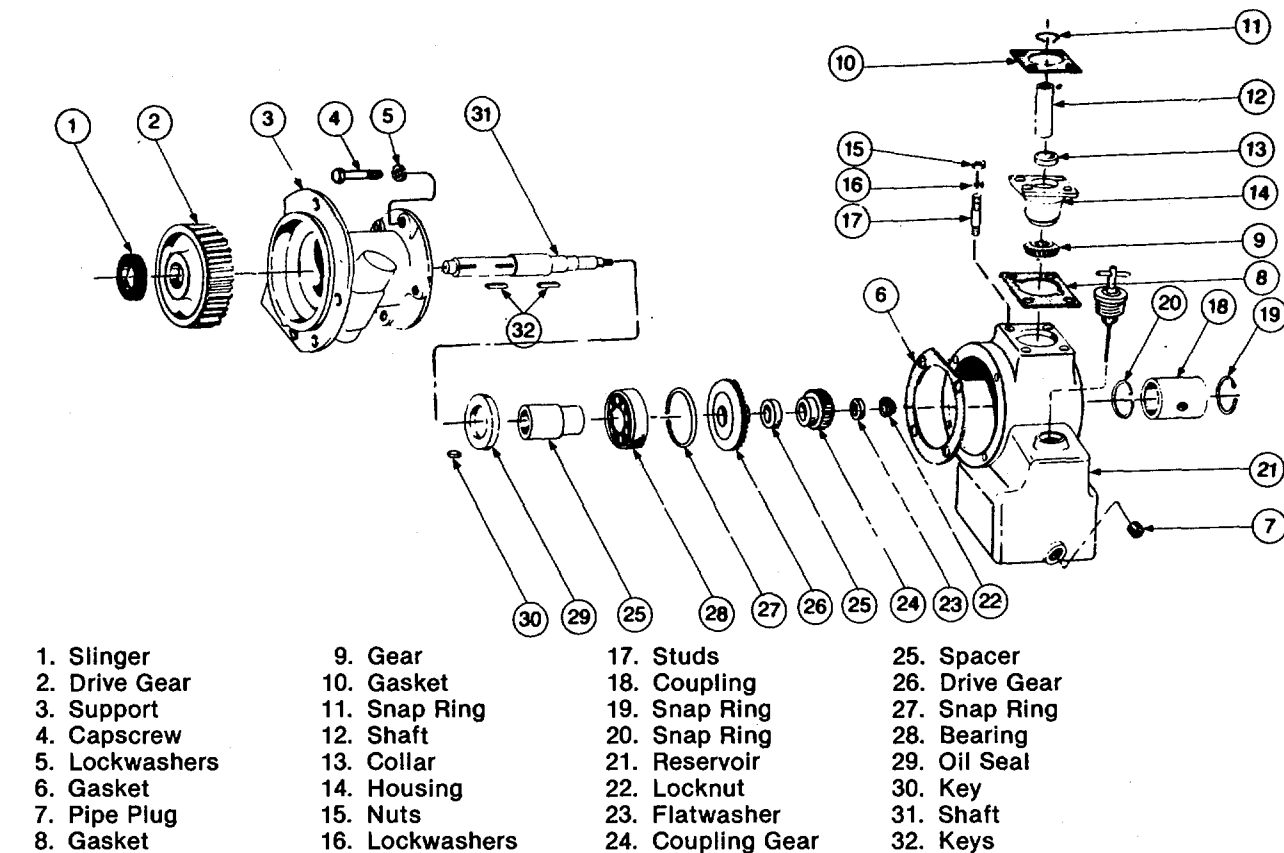

Fig. 9-3 (N10912). Fuel Pump, Hydraulic Governor Drive (Woodward Governor).
1. Remove the governor drive assembly, snap ring (11, Fig. 9-3), ball key and collar (13).
2. Press the shaft (12) opposite gear end to remove
- all units from housing (14), separate drive gear (2) and support assembly from reservoir (21); then remove drain plug, dipstick, vent plug and elbow.
3. Remove the shaft locknut (22) and washer (23) from the drive shaft (31). Use the ST-1249 Puller to remove the coupling (24). Lift the key out (30). Remove the spacer (25) and governor drive gear (26).
4. Press the small end of the shaft to remove the shaft from the support (3) and the large end of the shaft to remove the drive gear (2). Remove keys (32) from the shaft keyway and snap ring (27) from the support. Invert support and press out rear bearing (28) and oil seal (29).
1. Lubricate outside of oil seal (29, Fig. 9-3) and press into support from large end. Open end of seal must be down. Lubricate rear bearing (28) and press into support. Insert snap ring (27), flat side down.
2. Lubricate shaft (31) and place key (32) in shaft. Press shaft into flat side of gear (2) until shoulder seats on gear face.
3. Press small end of shaft assembly into large end of support. Press governor drive gear (26) onto shaft until it bottoms on bearing.
4. Insert key (30) and press on coupling (24). Shoulder of coupling goes against gear unless a spacer (25) is used. Install flatwasher (23) and shaft locknut (22).
5. Position reservoir (21) in vise with governor drive studs (17) up. Install dipstick, vent plug, weatherhead fitting and drain plug.
- a. Install shaft (12) in housing (14) with splined end up. Drop collar (13) into housing.
- b. Lubricate ball key and insert in drive shaft: install snap ring (11). Line up ball key with collar (13). Invert assembly and press on gear (9). Allow end clearance of 0.003 to 0.006 inch [0.08 to 0.15 mm].
- a. Press governor two-piece drive shaft (12) into washer flush with bottom side. Note relief in washer to start shaft.